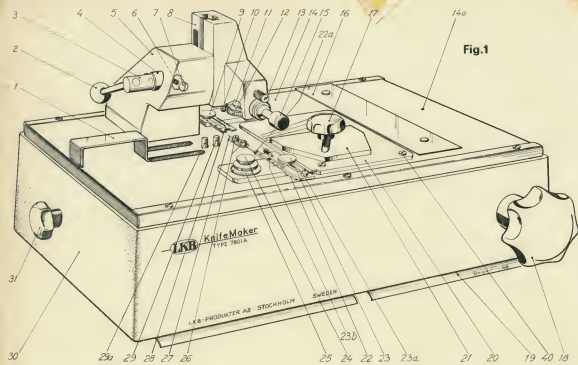

Fig. 1
4. Check that disengage knob (31), (see fig. 1), is fully pushed in.
5. Push rear glass holder (28) against glass square.
6. Turn knob (31) slowly backwards and pull it outwards to stop.
7. Push rear glass holder (28) two scale divisions towards glass square. Then lock holder with screw (9).
8. Push in disengage knob (31). Glass holder (28) will then press against glass square.
10. Support scoring shaft with the right hand while moving lever (2) to its starting position.
12. Turn disengage knob (31) backwards, see fig. 1, and pull it outwards to stop.
1. Remove locking knob (17), guide plate (21), screws (40) and angle setting plate (20), see fig. 1.
5. Replace guide plate (21) and knob (17).